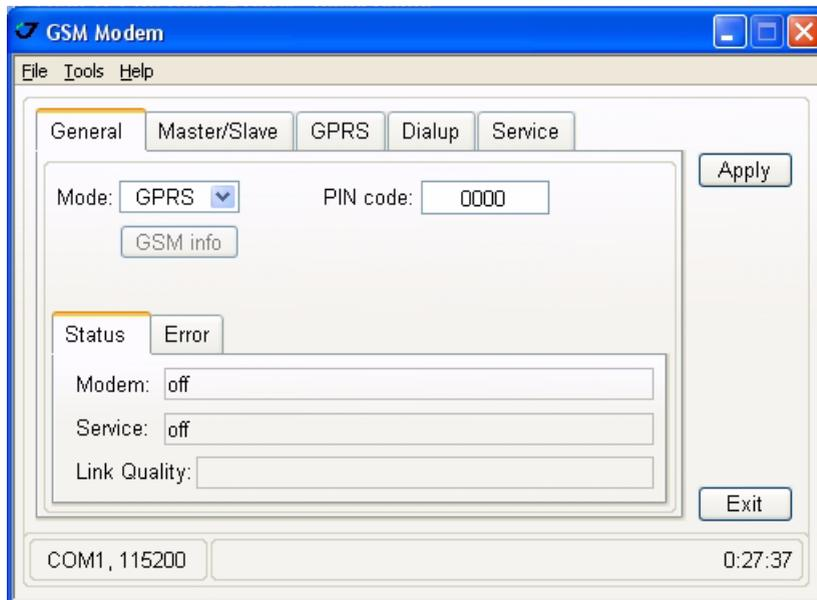

Figure 3-6. General tab
1. On the *General* tab, set the following parameters (Table 3-4) and click *Apply* (Figure 3-6 on page 48). In this tab modem and service status and possible errors are displayed.